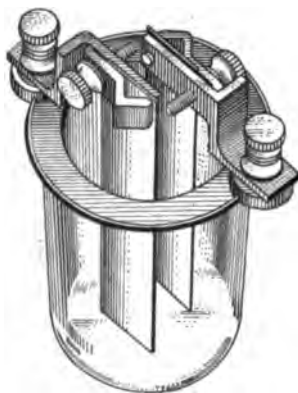

FIG. 219.—A simple voltaic cell.
**241. The simple voltaic cell** consists of a strip of copper and a strip of zinc placed in dilute sulphuric acid. (See Fig. 219.) A short time after placing the plates in the acid, bubbles of a gas (hydrogen) appear on the surface of the zinc. These bubbles increase in size and some rise to the surface of the liquid. Nothing appears upon the